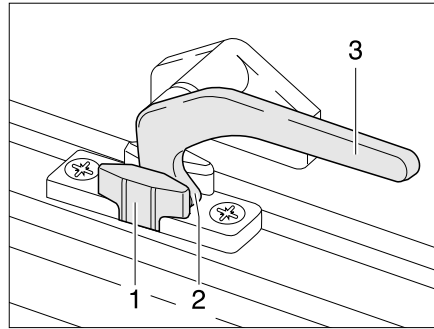

Fig. 78 Catch lever in the "continuous ventilation" position
- "Continuous ventilation" (Fig. 78)
- Turn the catch lever (Fig. 78,3) a quarter turn towards the centre of the window.
- Turn the catch lever a quarter turn towards the window frame. The locking catch (Fig. 78,2) has to be moved into the recess of window catch (Fig. 78,1).